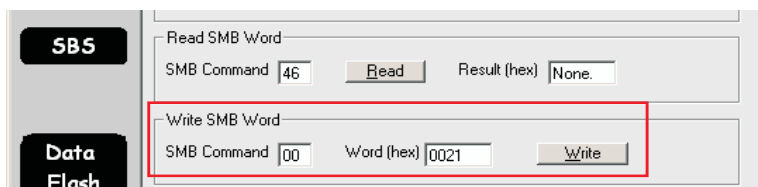

Figure 2. Fuel Gauging Command
11. To start fuel-gauging, navigate to the *Pro screen* in the EV software. Make sure that the *Write SMB Word* section reads: "SMB Command: 00 Word (hex): 0021" as shown in Figure 2, and click the *Write* button.